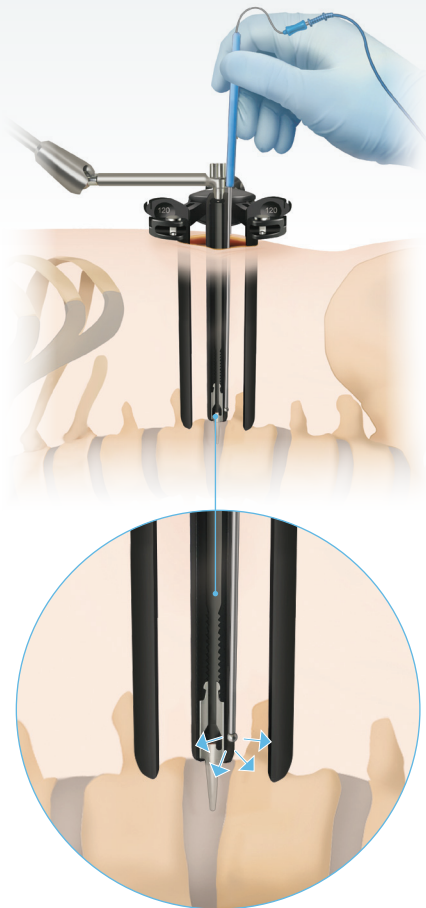

Figure 29
- Visualize and probe using the ball-tip probe to verify that the working area is clear of neural elements (**Figure 29**).